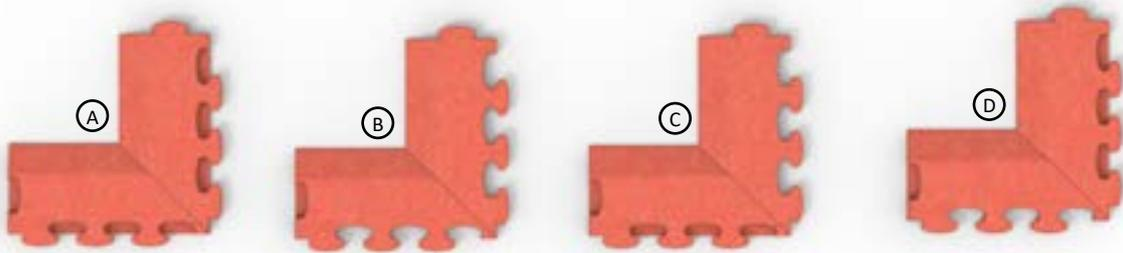
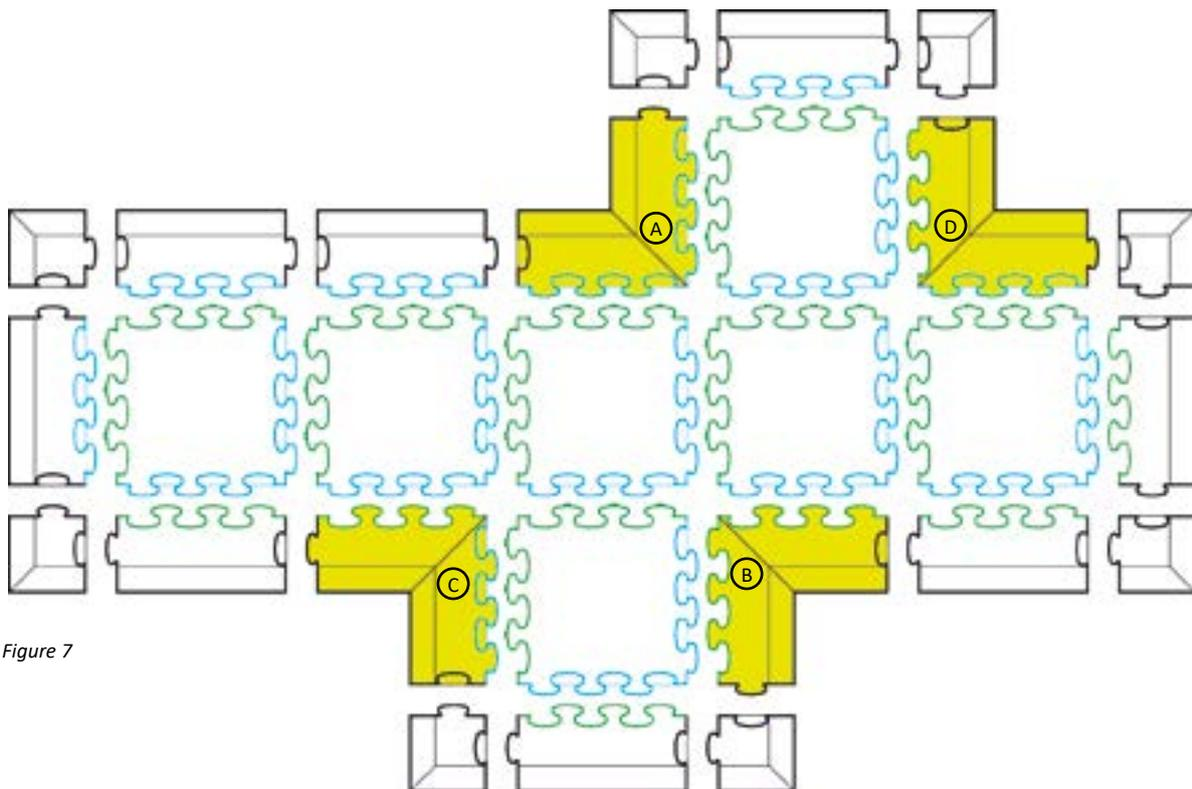

Figure 6
Figure 7
- it is important to arrange the puzzle elements in the same way when laying. Always start with the edge tiles with intermediate elements, whereby the PM3D tiles are always arranged during laying so that the “a” side without intermediate elements faces to the left (Figure 7).
Negative corner tiles as shown in Figure 6 consist of edge tiles cut to size during production. Negative corner tiles can be used for L-shaped installations or for building paths. The negative corner tiles can be ordered in versions A, B, C and D and can be installed as shown in Figure 7 below: